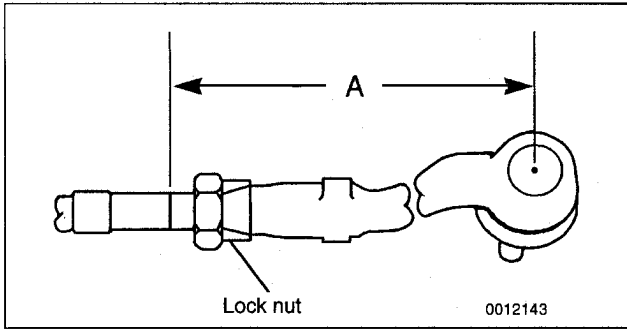

Fig. 8. Measuring tie rod end position (for reference only).
2. Make a reference measurement of outer tie rod end to tie rod. See Fig. 8. Record measurement
2. Make a reference measurement of outer tie rod end to tie rod. See Fig. 8. Record measurement.